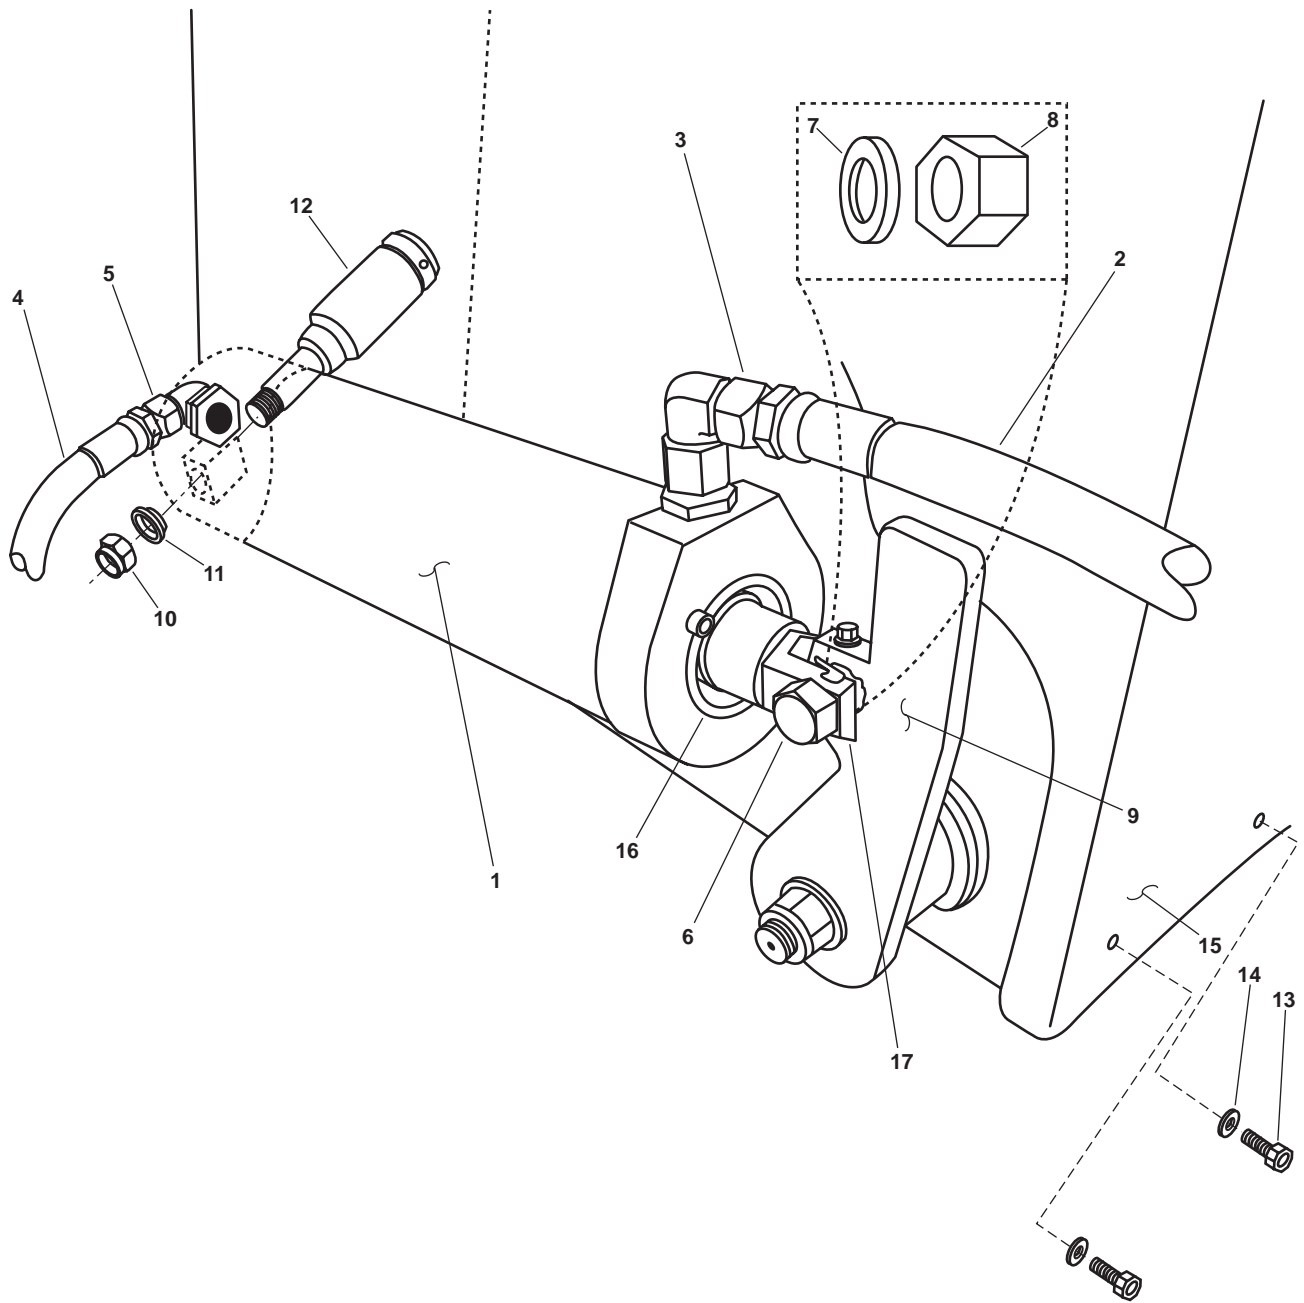

Figure 1. Hydraulic Cylinder
1. Place a suitable drain pan under the hydraulic cylinder (figure 1, item 1).
2. Slowly release the hydraulic fluid pressure in the hydraulic fluid return hose (figure 1, item 2) by loosening the hydraulic fluid return fitting (figure 1, item 3). Do not remove the hydraulic fluid return hose until all the hydraulic pressure has been released.
3. Remove the hydraulic fluid return hose (figure 1, item 2) from the hydraulic cylinder (figure 1, item 1). Drain any remaining hydraulic fluid into the suitable drain pan. Place an identification tag or label on the hydraulic fluid return hose.
4. Slowly release the hydraulic fluid pressure in the hydraulic fluid supply hose (figure 1, item 4) by loosening the hydraulic fluid supply fitting (figure 1, item 5). Do not remove the hydraulic fluid supply hose until all the hydraulic pressure has been released.
5. Remove the hydraulic fluid supply hose (figure 1, item 4) from the hydraulic cylinder (figure 1, item 1). Drain any remaining hydraulic fluid into the suitable drain pan. Place an identification tag or label on the hydraulic fluid supply hose.
6. Remove the bolt (figure 1, item 6), the washer (figure 1, item 7), and the nut (figure 1, item 8) from the brake control lever (figure 1, item 9).
7. Remove the nut (figure 1, item 10) and the washer (figure 1, item 11) from the rear shaft (figure 1, item 12).
8. Remove the hydraulic cylinder (figure 1, item 1) from the brake control lever (figure 1, item 9) and the rear shaft (figure 1, item 12).
1. Install the hydraulic cylinder (figure 1, item 1) on the rear shaft (figure 1, item 12) and the brake control lever (figure 1, item 9).
2. Install the nut (figure 1, item 10) and the washer (figure 1, item 11) on the rear shaft (figure 1, item 12).
3. Install the bolt (figure 1, item 6), the washer (figure 1, item 7), and the nut (figure 1, item 8) in the brake control lever (figure 1, item 9).
4. Connect the hydraulic fluid supply hose (figure 1, item 4) to the hydraulic cylinder (figure 1, item 1) using the label from step 5 of Removal as a guide. Remove the label.
5. Connect the hydraulic fluid return hose (figure 1, item 2) to the hydraulic cylinder (figure 1, item 1) using the label from step 3 of Removal as a guide. Remove the label.
3. Remove the hydraulic fluid return hose (figure 1, item 2) from the hydraulic cylinder (figure 1, item 1). Drain any remaining hydraulic fluid into the suitable drain pan. Place an identification tag or label on the hydraulic oil return hose.
6. Remove the five bolts (figure 1, item 13) and the five washers (figure 1, item 14) from the brake band cover (figure 1, item 15).
7. Remove the brake band cover (figure 1, item 15).